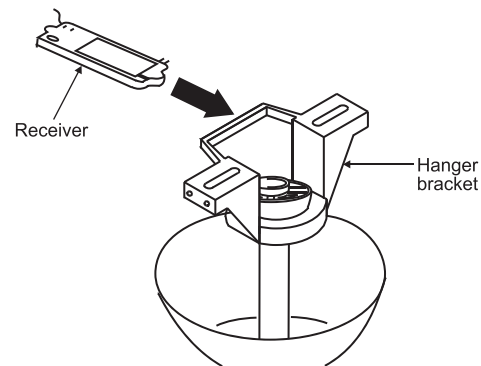

Fig. 14
Step 1. Insert the receiver into the ceiling mounting bracket with the flat side of the receiver facing the ceiling. (Fig.14) For best performance, make sure the Black Antenna, on the end of the receiver, remains extended and not tangled with any of the electrical wires.